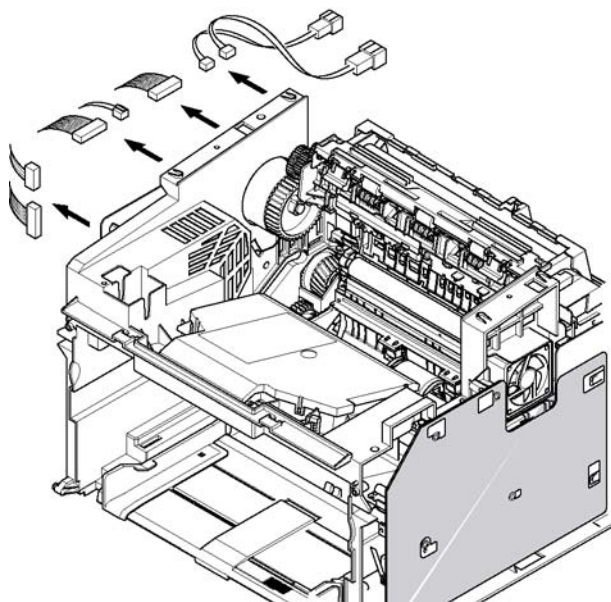

Figure 1
3. Unplug the all Connectors from the main PBA, Figure 1.